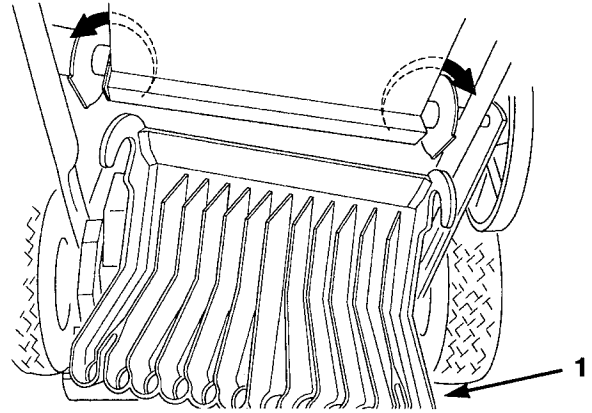

Figure 20
5. Install the chute (Fig. 20). Notice that the chute has a hook at both sides.
3. Rotate the chute up and slide it forward to disengage the hooks from the axle (Fig. 20).